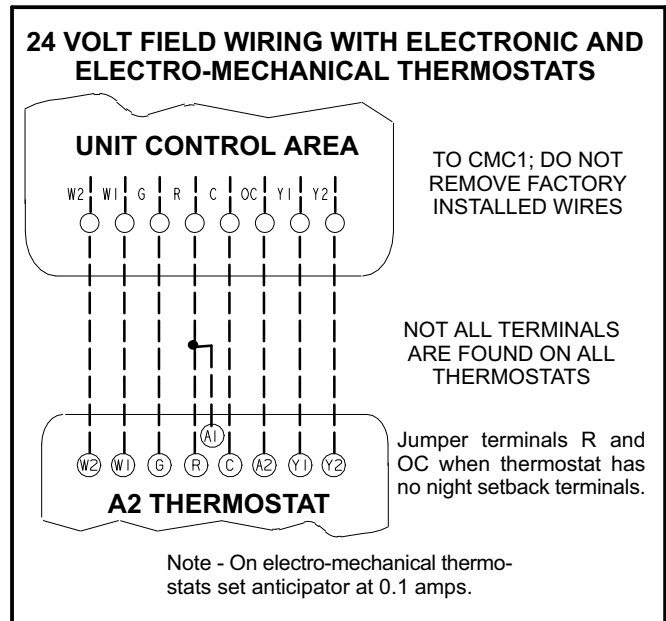

FIGURE 7
- 3- Connect thermostat wiring to low voltage leads in control box. Wire as shown in figure 7 for